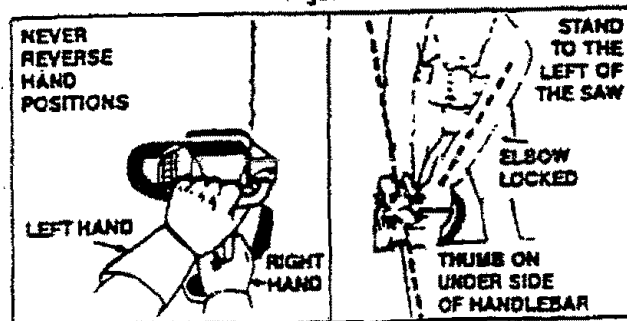

Figure 3
1. Keep a good firm grip on the saw with both hands when the engine is running and don't let go. Figure 3. A firm grip can neutralize kickback and help you maintain control of the saw. Keep the fingers of your left hand encircling and your left thumb under the front handlebar. Keep your right hand completely around the rear handle whether you are right handed or left handed. Keep your left arm straight with the elbow locked.
2. Position your left hand on the front handlebar so it is in a straight line with your right hand on the rear handle when making bucking cuts. Figure 3. Never reverse right and left hand positions during any type of cutting.
4. Stand slightly to the left side of the saw to keep your body and head from being in a direct line with the cutting chain. Figure 3.